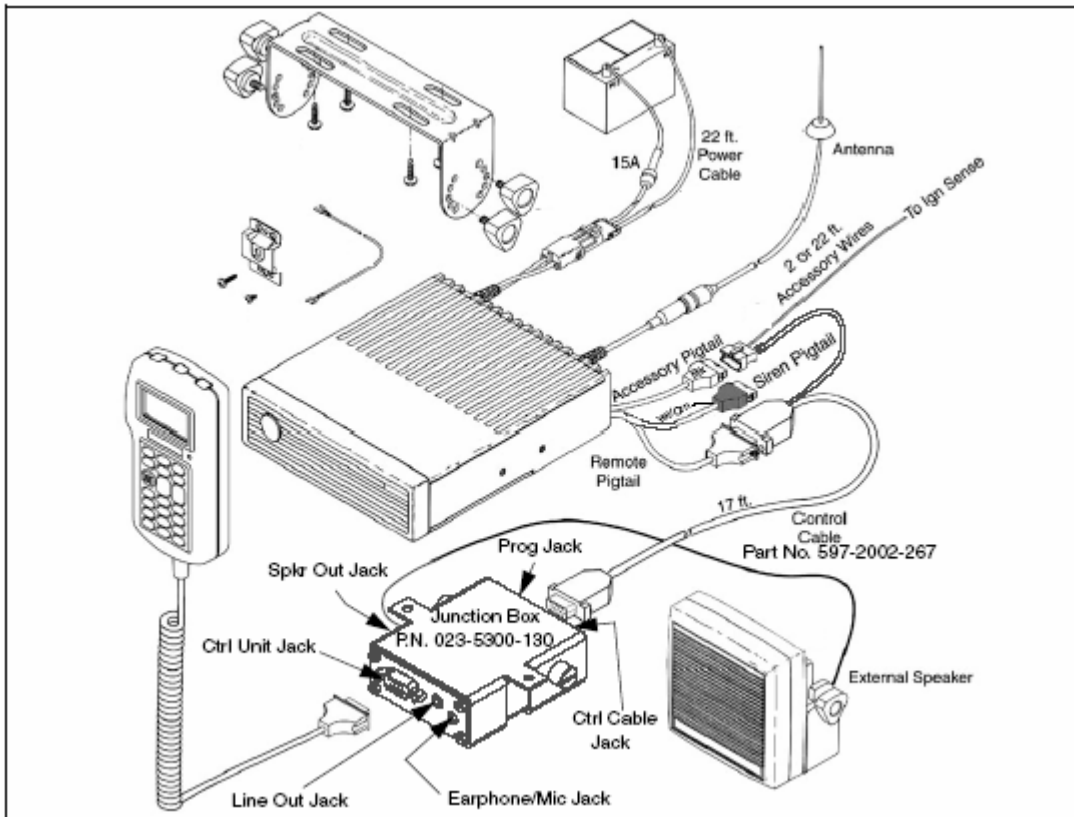

Figure 2-10 HHC Installation Components (Optional Junction Box Used)
The Handheld Control Unit replaces the standard control unit and DTMF microphone in remote mount applications. It does not contain an internal speaker, so an external speaker must be used. This control unit plugs directly into the remote control unit pigtail cable on the back of the transceiver or into an optional junction box. This junction box provides the following additional jacks (see Figure 2-10).
Optional Junction Box Used (Figure 2-10)
3. Route the 17-foot (5-meter) control cable from the transceiver to the junction box as shown in Figure 2-10. Connect it between the remote pigtail of the transceiver and the male DB9 jack of the junction box.